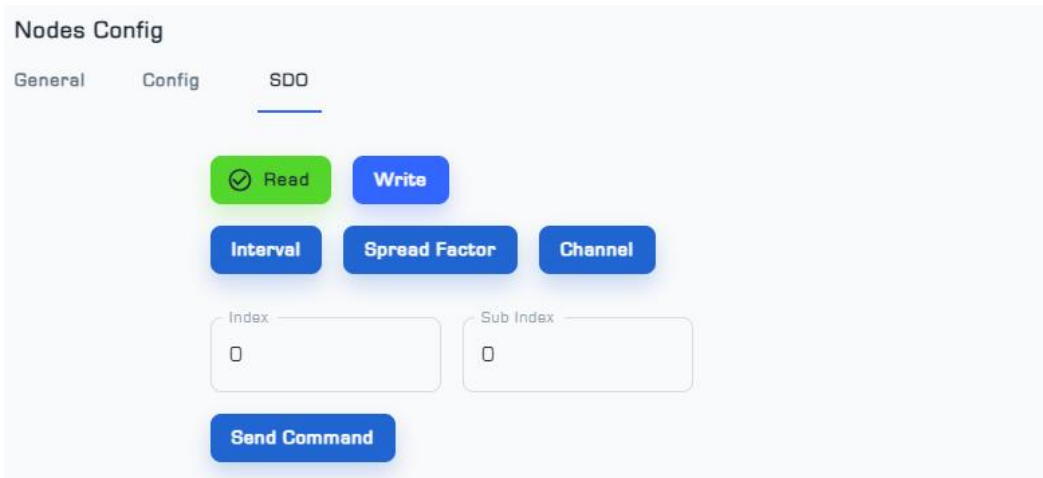

Figure 7: SDO Menu from Nodes Setting page
■ The SDO menu is used to change the parameters of Interval ¹, Spread Factor, and Channel² (Figure 7).